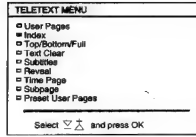

Fig. 38
- 2 Using $\Delta+$ or $\nabla-$, select the teletext function you want and press OK. (See Fig. 38)